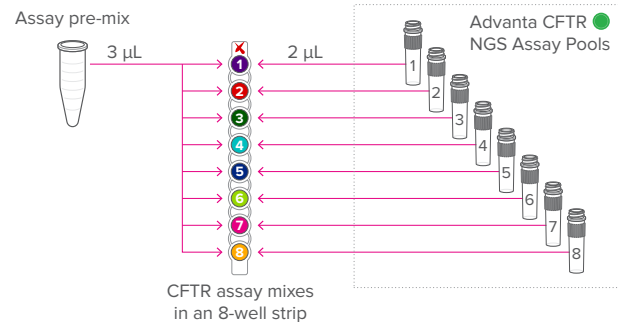

Figure 1. Preparation of CFTR assay mixes
- b Add 3 μL of assay pre-mix to each well in the strip. Pipet components according to the diagram shown in Figure 1.